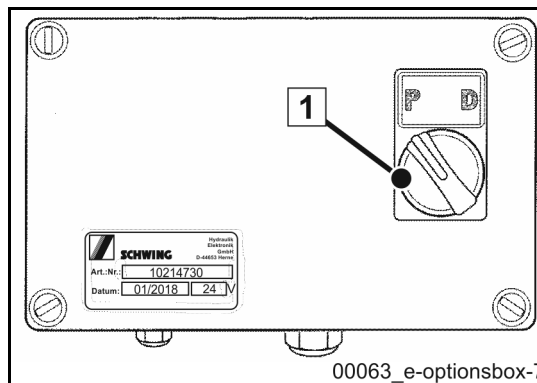

Fig. 275 Switching on distribution manual transmission gear (VSG)
- Wait for approx. 5 seconds before flipping the switch from "P" (pump) to "D" (drive) (**Fig. 275**).